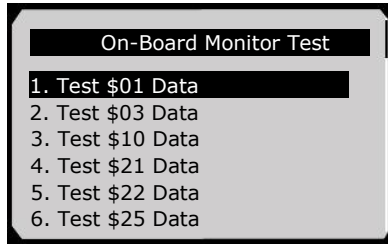

Figure 5.28
- 5) From **On-Board Monitor Test** menu, use the **UP/DOWN** scroll button to select a test to view and press the **OK** button. (Figure 5.28)